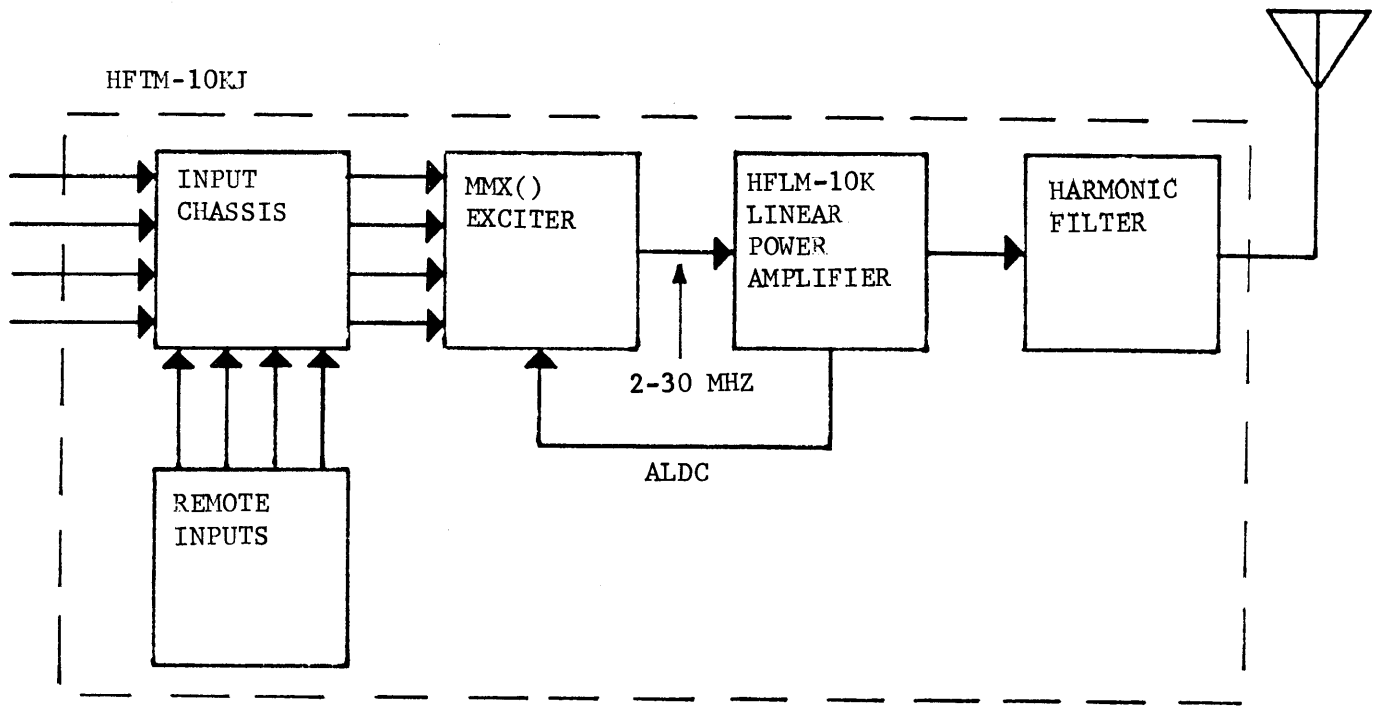

Figure 4-1. Functional Block Diagram
Figure 4-1 is a functional block diagram of the HFTM-10KJ which consists of an MMX(M)2 Multimode Exciter providing excitation voltage to the HFLM-10K. The exciter accepts remote or local intelligence inputs and provides at least 100 milliwatts of rf power to the HFTM-10K within the operating range of 2 MHz to 29.9999 MHz in any one of the following modes: AM, AME, SSB, ISB, CW, FSK, or FAX. The amplifier portion of the transmitter provides linear amplification of the exciter rf output and provides ten kilowatts PEP or average power within the operating frequency range of the exciter. The power amplifier output is fed through a lowpass harmonic filter which attenuates the second harmonic content of frequencies from 17 MHz and higher. The output is then routed through a directional coupler to the output connector and to a 50 ohm load or antenna.
- a. Overall Block Diagram (Section 4, figure 4-1).